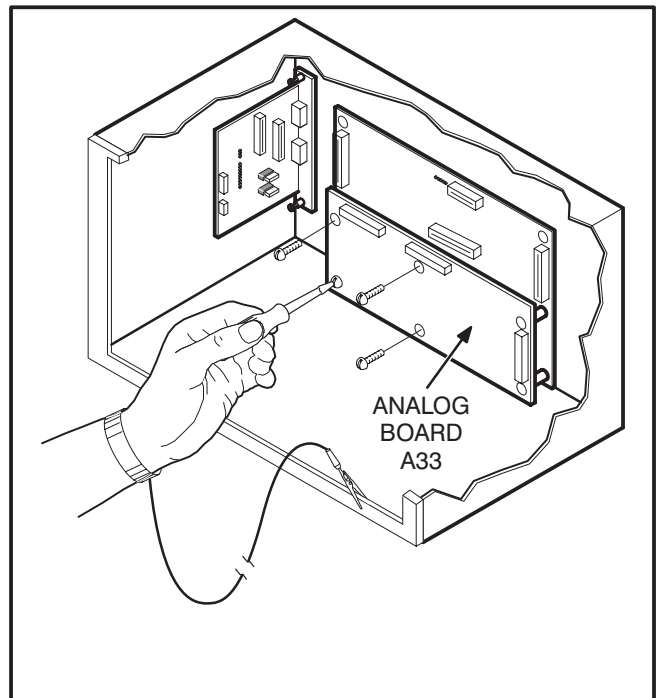

FIGURE 5-3. PREPARING TO MOUNT GCM BOARD
4. Open the control box door. Connect the wrist strap ground clip as shown in Figure 5-3.
5. Use a Phillips screwdriver to remove the four analog board mounting screws shown in Figure 5-3.